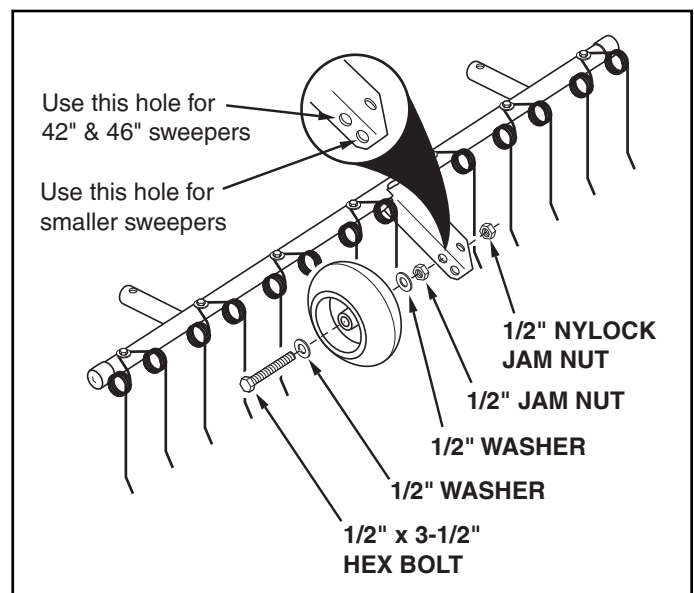

FIGURE 2
- Assemble a 1/2" washer, the wheel, another 1/2" washer and the 1/2" plain jam nut onto the 1/2" x 3-1/2" hex bolt. See figure 2.
- Insert the bolt through the welded bracket and assemble the 1/2" nylock jam nut onto the bolt. Adjust the nuts so that there is no end play in the wheel and then tighten the nuts securely against the welded bracket. Make sure the wheel still turns freely. See figure 2.
- The operating height of the dethatcher is controlled by the gauge wheel at the front of the dethatcher and is not adjustable. The correct wheel position was determined in figure 2 when you assembled the wheel.